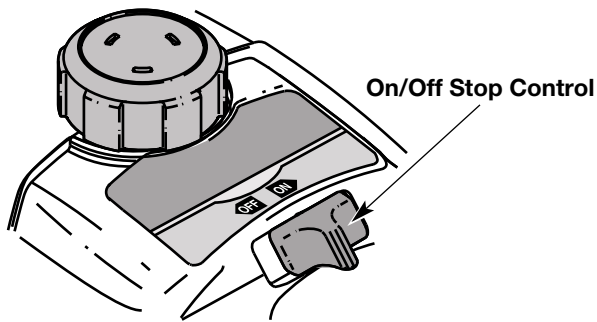
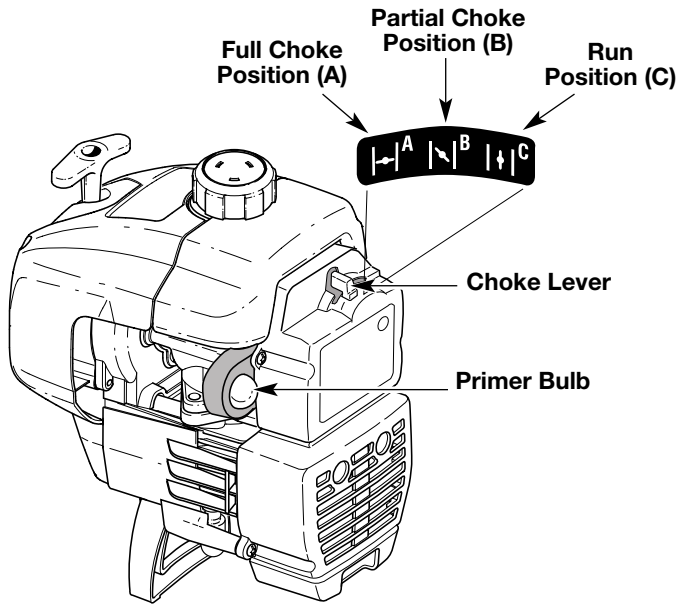

Fig. 4
Fig. 5
2. Put the On/Off Stop Control in the **ON** position (Fig. 4).
3. Fully press and release primer bulb slowly 5 to 7 times. Fuel should be visible in the bulb (Fig. 5). If fuel is not visible, press three (3) more times, or until it is.
4. Place the choke lever in the **FULL** choke position (A) (Fig. 5).
6. Place the choke lever in the **PARTIAL** choke position (B) (Fig. 5).
NOTE: If the engine floods while trying to start, place the choke lever in the **RUN** position (C) (Fig. 5). Squeeze the throttle control. Pull the starter rope briskly. The engine should start within three (3) to eight (8) pulls.
9. Squeeze the throttle control to warm up engine for 5 to 10 seconds. Place the choke lever in the **RUN** position (C) (Fig. 5).
NOTE: Choking is unnecessary when starting a warm engine. Put the On/Off Stop Control in the **ON** position (Fig. 4), and start in **PARTIAL** Choke position (B) (Fig. 5).
2. Put the On/Off Stop Control in the **OFF** position (Fig. 4).